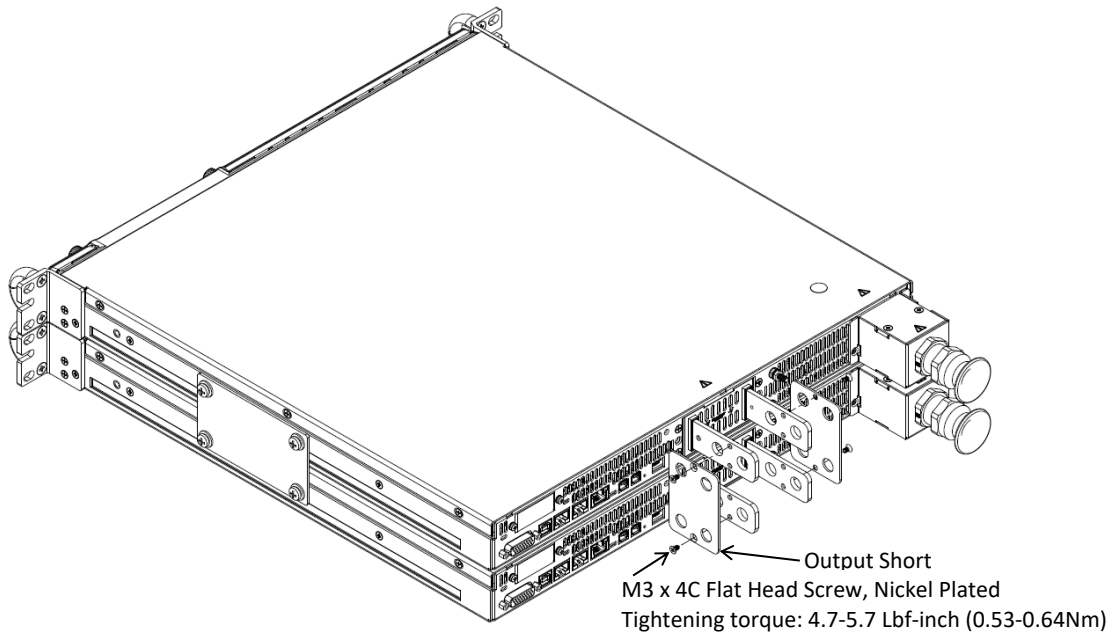

Figure 9: Two 20V-40V Units Output Short Plates Assembly
2. Attach output short plates, one on each pair of terminals, using four flat head screws as illustrated in Figure 9.